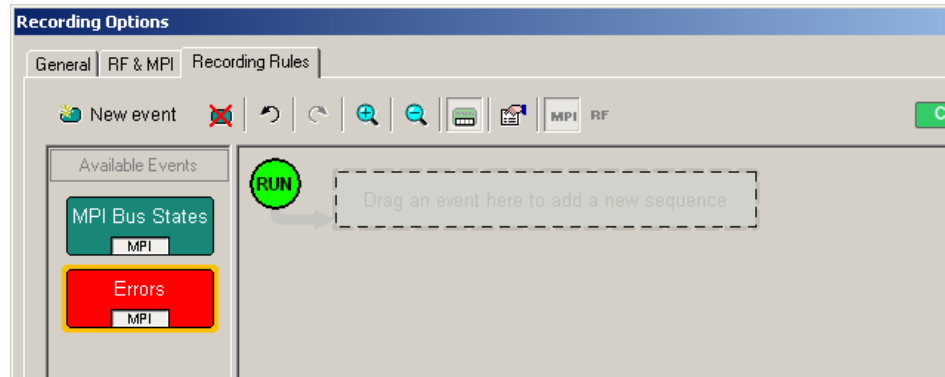

Figure 7.11 Drag-and-Drop Event Button to Cell
Step 2 Drag the button to the cell. When the button is in the cell, a dashed highlight line appears around the cell (Figure 7.11).